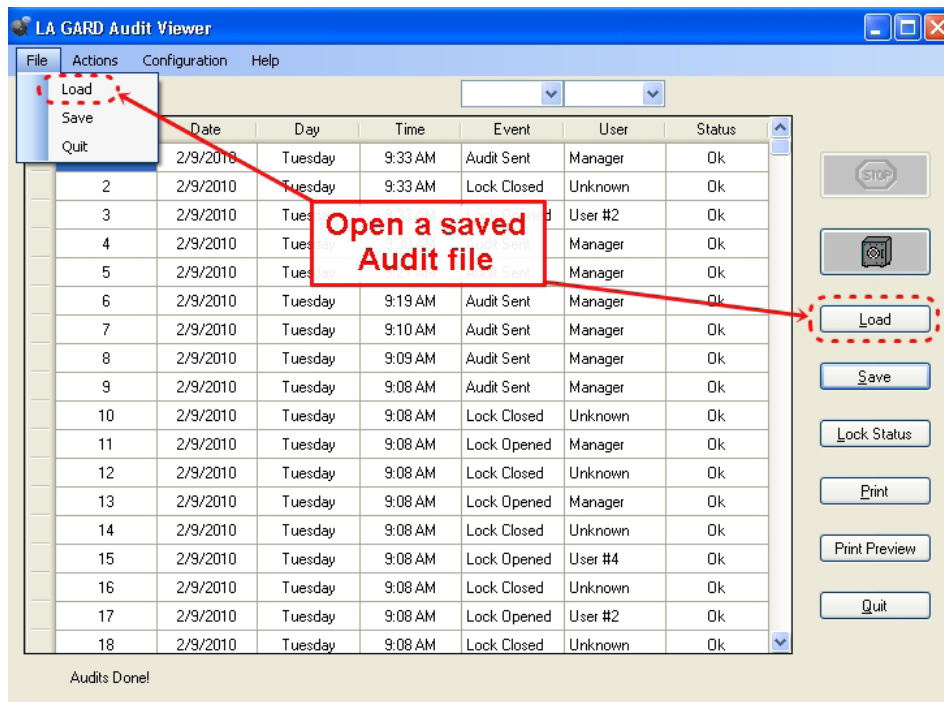

Figure 22
1. Click the **Load** button or select Load from the **File** menu on the Menu bar (Figure 22).